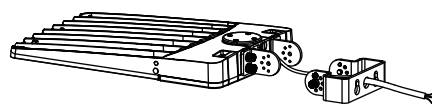

Figure 5
- Step 1: Remove the bracket mounting screws on the fixture and pass the wires through the bracket (Figure 5)